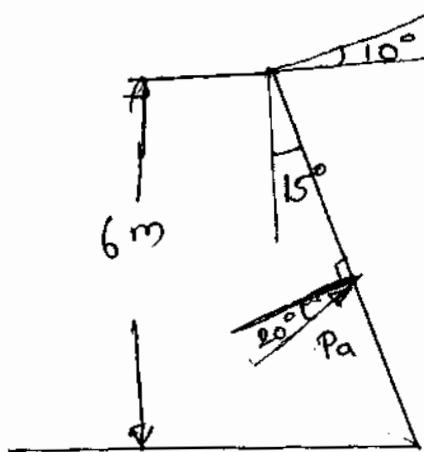

Fig. 1
- IV. The retaining wall shown in Fig. 1 retains a soil with the following properties :